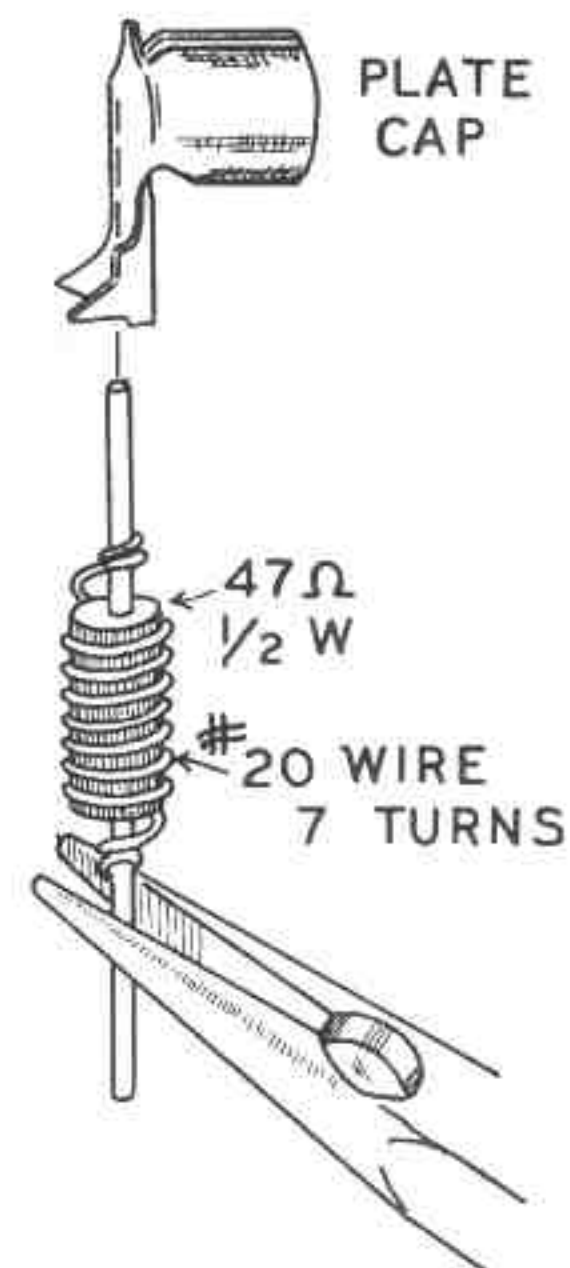

Figure 15
- (✓) Coil lead #5 goes to bandswitch terminal #7 (NS).
- (✓) Twist excess lead length from the ends of the coil around the lugs on the feed-through insulators (NS).
- (✓) Insert one lead 1/8" down through the top 2.5 mh R. F. choke solder lug (NS). Bend the capacitor down and insert the other lead through the hole in the solder lug on the feed-through insulator IN2 (S). See Pictorial 3.
- (✓) Secure one end of the #20 wire 1/8" next to the resistor body by forming a small hook around one lead and pinching it together(S). See Figure 15.
- (✓) While holding the resistor by the wire lead next to the connection with pliers, wind seven turns of #20 tinned wire close together. Secure the end by pinching a small loop around the resistor lead. Trim off the excess wire (S).
- (✓) Space out the turns on the parasitic choke by the thickness of a thumb nail. Avoid turns shorting together. Refer to Figure 15.
- (✓) Insert the 6DQ6A tube in the socket to establish the parasitic choke position. Allow the choke to hang straight down from the tube. Bend the bottom lead of the parasitic choke to form a right angle and connect it upwards through the solder terminal on top of the 2.5 mh plate choke (S). See Pictorial 3.